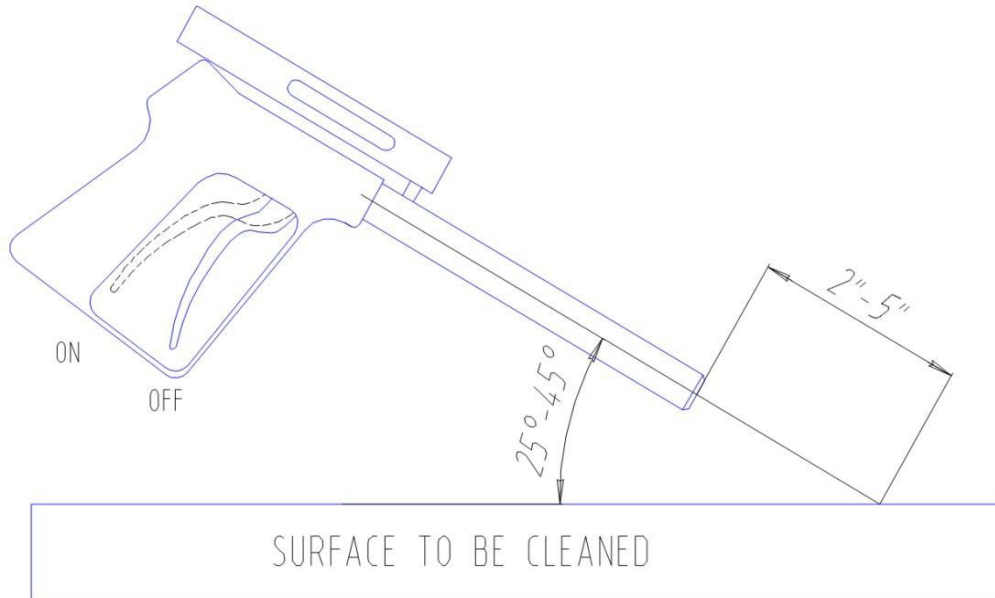

Figure 5.2 – Zero-Thrust Gun Position for Best Results
The pressure at the nozzle of the zero-thrust gun must be maintained within certain limits to achieve cavitation and for best performance results. Using a calibration pressure gauge tool situated between the pressure hose and the CaviBlaster zero-thrust gun, (See **Figure 5.2**) the water pressure should be 7,000 psi (483 BAR) with the gun submerged and the gun trigger in the open or “ON” position. For best results, repeat this calibration procedure if cleaning performance degrades, or every 3 months at a minimum.
A CALIBRATION GAUGE IS RECOMMENDED WITH EVERY UNIT. CONNECT BETWEEN THE MAIN PRESSURE HOSE AND THE WHIP HOSE OR ZERO-THRUST GUN. SEE FIGURE 5.2.
10. Hold the gun tight and observe the calibration gauge (See Figure 5.2).